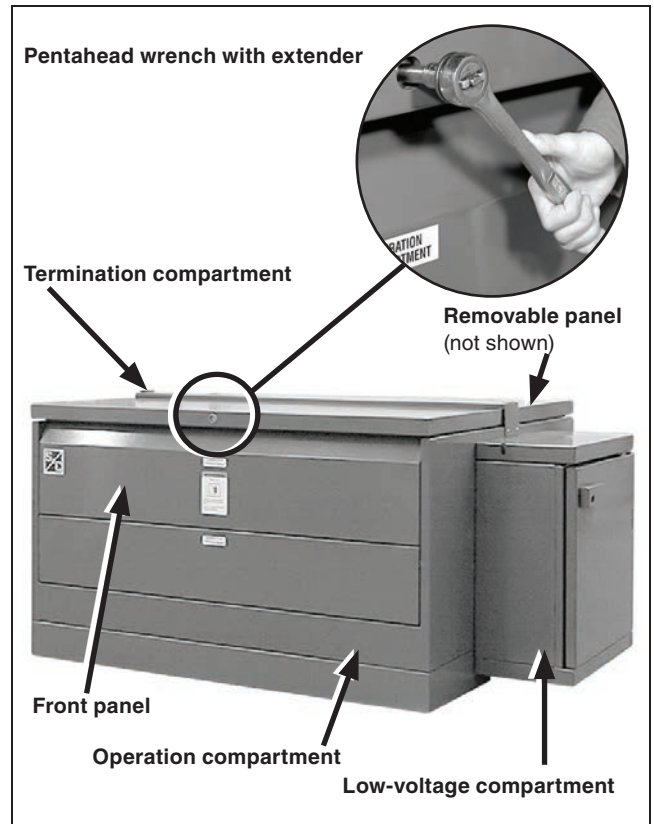

Figure 3. Pad-mounted style gear—roofs closed.
- STEP 1.** Loosen the pentahead bolts securing the hinged roofs to the enclosure using a pentahead socket wrench with extender or a pentahead tool. See Figure 3.